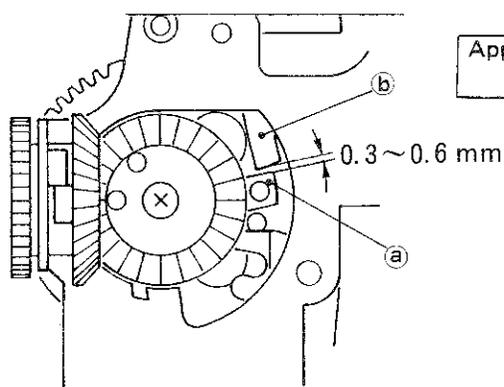
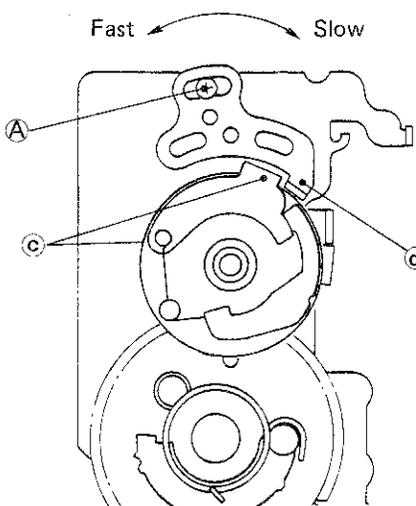

Fig. 69
Fig. 70
When the film advance crank is turned continuously and the clearance between (a) (Fig. 69) of 2nd curtain charge gear and 2nd curtain latch (b) becomes 0.3 to 0.6 mm, adjust stopper (d) so that the clutch (c) (Fig. 70) on the wind-up base plate is disengaged, by loosening screw (A).